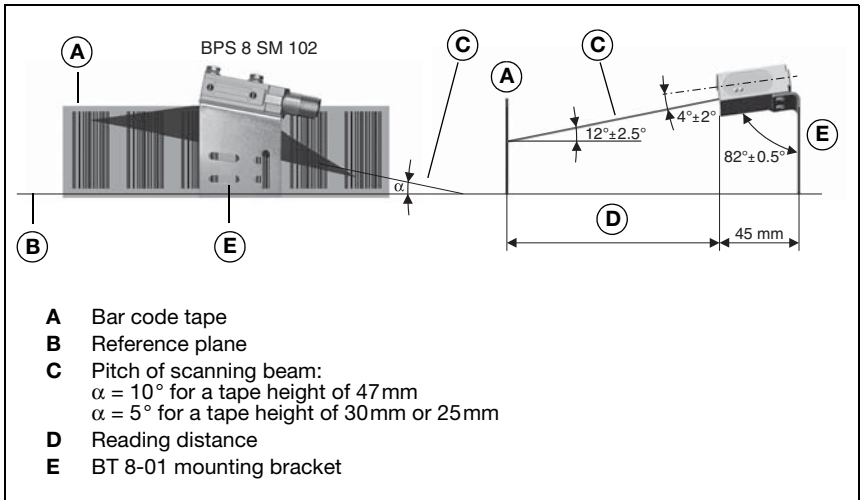

Figure 6.11: Beam exit and device arrangement of the BPS 8 SM 102
- the scanning beam is incident on the bar code tape without interruption and as described in Figure 6.11 and Figure 6.2.